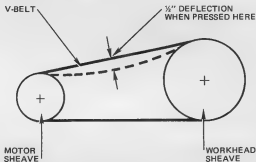

Figure M11B
To adjust the tension on V-belt (23, RP38), loosen screw (12) and move motor (5) away from the spindle to increase belt tension. When properly adjusted, the belt can be deflected $\frac{1}{2}$ " by pressing at a point midway between the two sheaves, see Figure M11B. Tighten screw (12) when the proper tension is obtained.